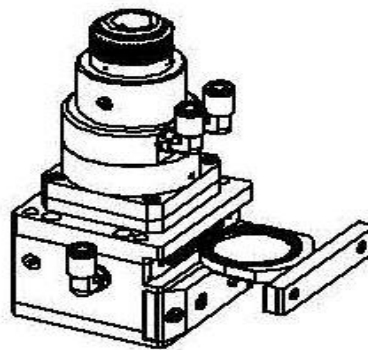

Figure 6.3 — Take out collimating protective lens
- Use a 2.5mm inner hexagon spanner to unscrew the screw of collimating protective lens (as shown in figure 6.3);